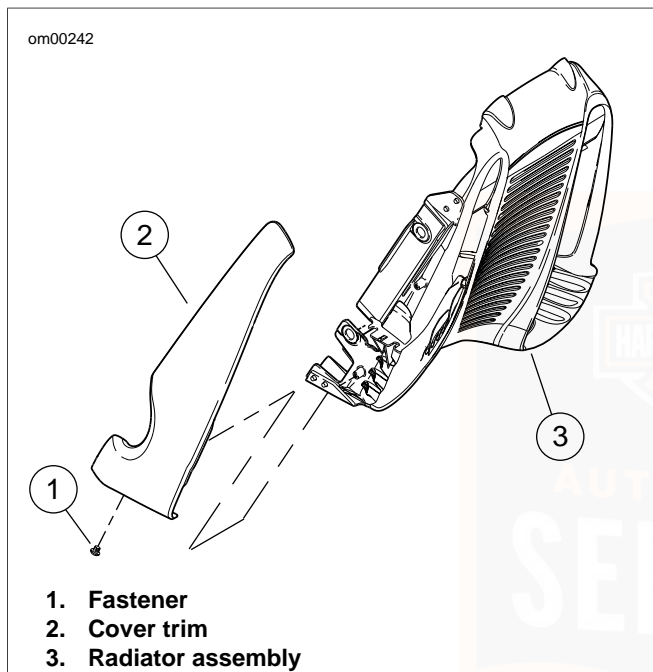

Figure 37. Removing Right Side Radiator Cover Trim
- a. See Figure 37. Remove the fastener holding the radiator cover side trim. Gently pull the bottom of the side trim outward, lift up on the trim to detach it from its upper attachment point and remove it from the motorcycle.